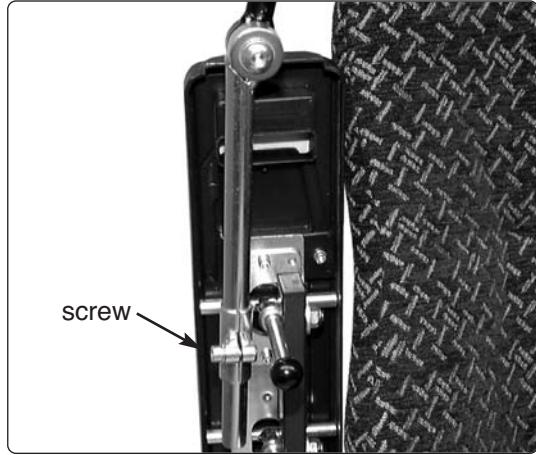

Fig. 10. Table support for table control/central control
2. Lay the cables along the table frame and strap them in place. Check that the cables are free when the table is folded up. See Figure 10.